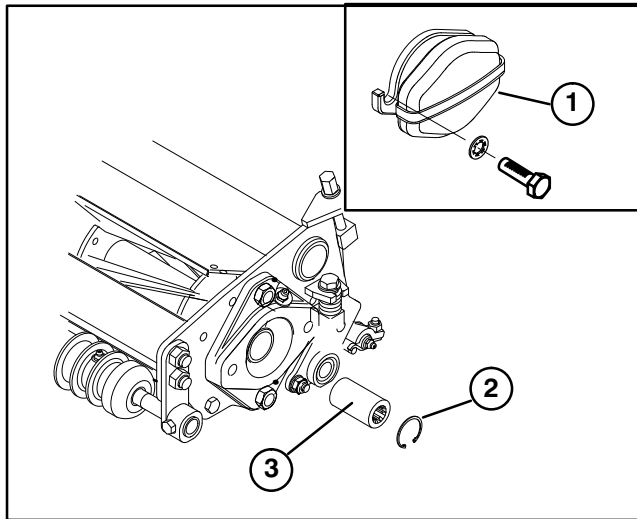

Figure 7
INSTALL CUTTING UNITS (Fig. 7–9)
- A. Remove (2) capscrews and lockwashers securing counter weight to left end of cutting unit. Remove counter weight (Fig. 7, inset).